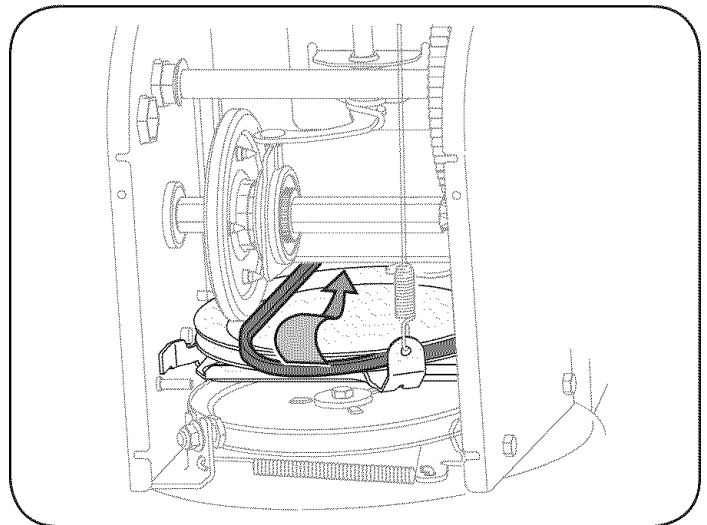

Figure 26
- Slip the drive belt off the pulley and between friction wheel and friction wheel disc. See Figure 26.